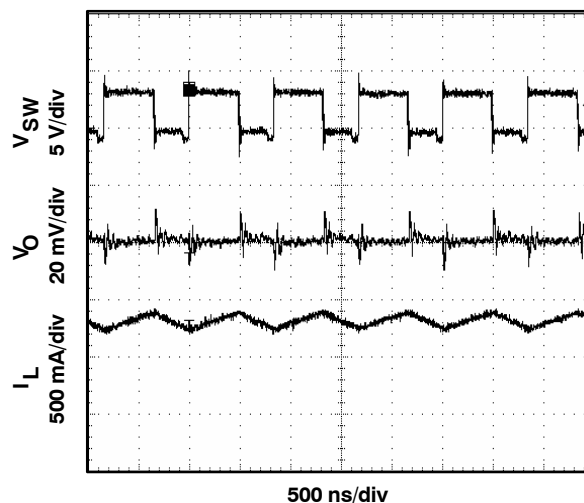
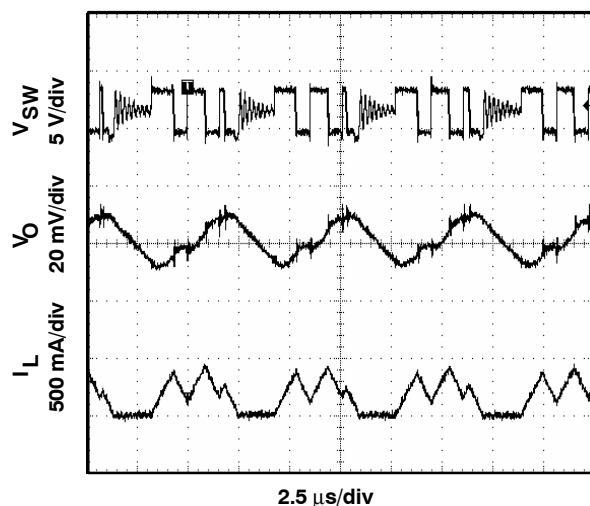
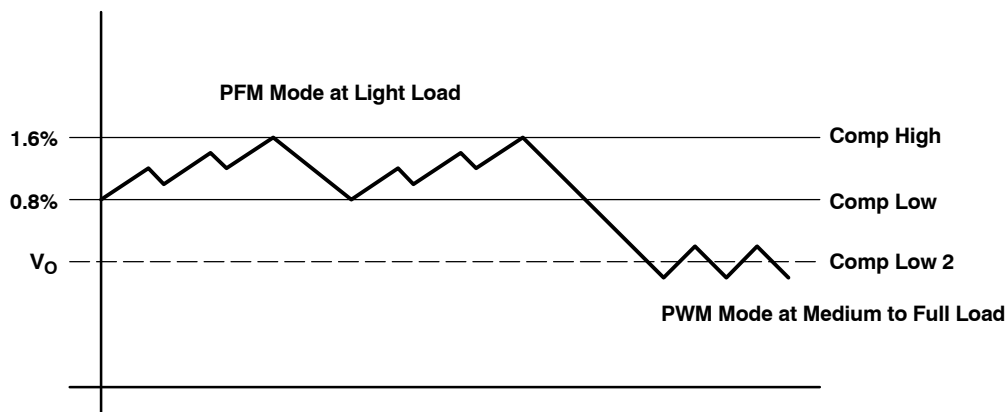

Figure 11
Figure 12
Figure 14. Power Save Mode Thresholds and Dynamic Voltage Positioning
During power save mode the output voltage is monitored with the comparator by the threshold's comp low and comp high. As the output voltage falls below the comp low threshold set to typically 0.8% above the nominal output voltage, the P-channel switch turns on. The P-channel switch remains on until the transition current (1) is reached. Then the N-channel switch turns on completing the first cycle. The converter continues to switch with its normal duty cycle determined by the input and output voltage but with half the nominal switching frequency of 625-kHz typ. Thus the output voltage rises and as soon as the output voltage reaches the comp high threshold of 1.6%, the converter stops switching. Depending on the load current, the converter switches for a longer or shorter period of time in order to deliver the energy to the output. If the load current increases and the output voltage can not be maintained with the transition current, equation (1), the converter enters PWM again. See Figure 11 and Figure 12 under the typical graphs section and Figure 14 for power save mode operation. Among other techniques this advanced power save mode method allows high efficiency over the entire load current range and a small output ripple of typically 1% of the nominal output voltage.
Setting the power save mode thresholds to typically 0.8% and 1.6% above the nominal output voltage at light load current results in a dynamic voltage positioning achieving lower absolute voltage drops during heavy load transient changes. This allows the converter to operate with small output capacitors like 22 µF and still having a low absolute voltage drop during heavy load transient. Refer to Figure 14 as well for detailed operation of the power save mode.
As described in the power save mode operation sections before and as detailed in Figure 14 the output voltage is typically 0.8% (i.e., 1% on average) above the nominal output voltage at light load currents, as the device is in power save mode. This gives additional headroom for the voltage drop during a load transient from light load to full load. In the other direction during a load transient from full load to light load the voltage overshoot is also minimized by turning on the N-Channel rectifier switch to pull the output voltage actively down.